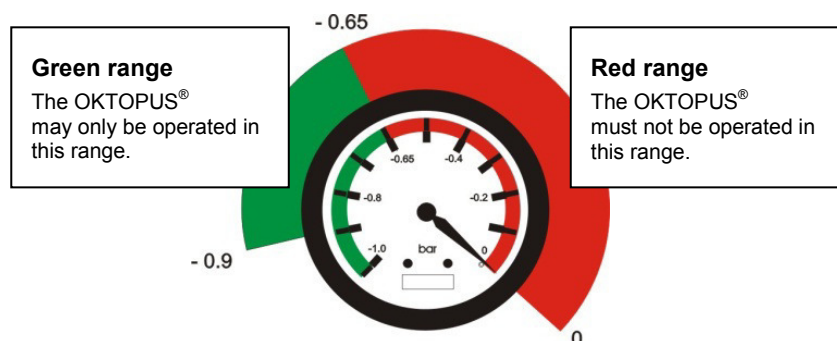

Fig. 5: Vacuum gauge
The OKTOPUS® GLASS-Jack GL-LN 700 mounted to the crane is ready for use, when a sufficient vacuum level is reached in both vacuum tanks. The current vacuum level is constantly indicated on the vacuum gauges (figure 5).
- ⇒ After the red warning light and the alarm buzzer have gone out, the vacuum gauges indicate that the working range (see fig. 5) has been reached, the green signal light flashes and you've made sure that there's nobody in the hazardous area, you can lift the load.
- ⇒ After the red warning light and the alarm buzzer have gone out, the vacuum gauges indicates that the working range (see fig. 5) has been reached, the green signal light flashes and you've made sure that there's nobody in the hazardous area, you can lift the load.